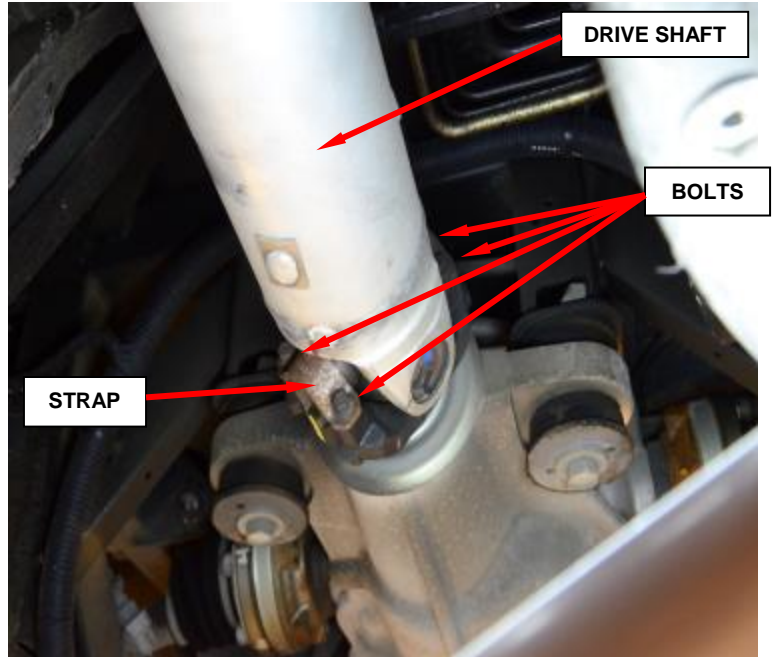

Figure 41 – Drive Shaft
- a. Remove and **discard** the universal joint bolts and straps from pinion yoke and slide propeller shaft yoke out of the transmission. Remove drive shaft (Figure 41).
- l. Install the propeller shaft using the **NEW** universal joint bolts and straps. Tighten the **NEW** bolts to 28 ft. lbs. (38 N·m) (Figure 41).